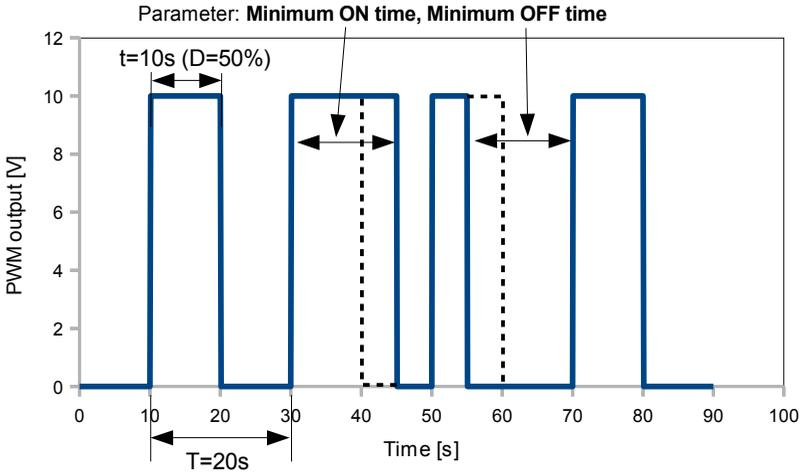

Fig. 7.86. Sample of output signal of OC-type relay in PULSE mode
- **Minimum ON time** - minimum duration of a high state (after switching to a high state, switching back is possible after **Minimum On time**), see Fig. 7.86,
- **Minimum OFF time** - minimum duration of a low state (after switching to a low state, switching back is possible after **Minimum OFF time**), see Fig. 7.86,